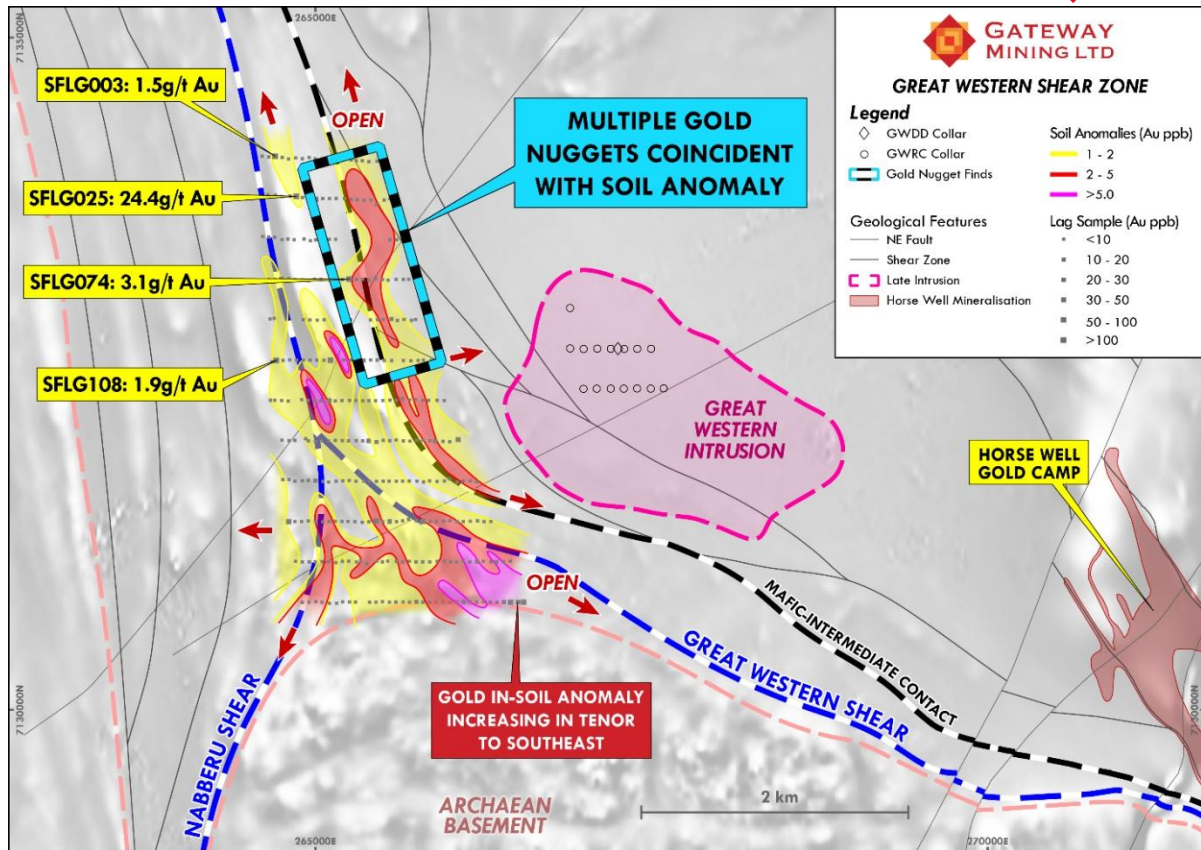

Figure 1. Location of corridor where 134 nuggets were collected at Great Western, also showing coincident soil anomaly along the mafic-intermediate contact.¹
- 134 gold nuggets weighing a total of 366 grams collected along a 1.2km portion of the untested Great Western splay corridor (see Figure 1).
Gateway is pleased to announce that 134 nuggets for a total of 366 grams (with a peak weight of 26.5 grams) have been collected along a 1.2 kilometre strike within the recently identified Great Western splay corridor. The nuggets were located across an area within the recently announced high grade surface gold anomalism (please refer to ASX announcement on 3rd September 2025) (see Figure 1).
Given the nuggets are located on the western margin of the modelled Great Western intrusive (see Figure 1 and refer to ASX announcement 9th September 2025), it further enhances the geological model that this late intrusive has provided the structural deformation and setting for high grade gold mineralisation to occur along the splay corridor. Further surface geochemical sampling and prospecting will occur along the margins of this intrusive unit with the results released to the market in due course. Given that this entire trend has not been drilled to date, it provides not only a substantial opportunity along the Great Western splay, but across the wider project where these late intrusives (characterised by coincident Mo-Bi-Te-Cu) have been additionally identified.
The abundance of gold is constrained to the 134 nuggets reported. The nuggets range in size from 1.5 grams to approximately 26.5 grams and have an angular habit. The nuggets were discovered near surface on tenement E69/2765 to a maximum depth of approximately 40cm using metal detecting equipment (see Appendix B for further details on prospecting method). The nuggets are not representative of the entire area with approximately 60% of the nuggets confined to an area approximately 200m (north-south) x 100m (east-west) – centered around 265,380mE and 7,133,110mN (Grid MGA94 Zone 51). The remainder of the nuggets were dispersed along the recently defined surface sampling gold anomaly for approximately 1.2 kilometres of strike on tenement E69/2765 (Figure 1).